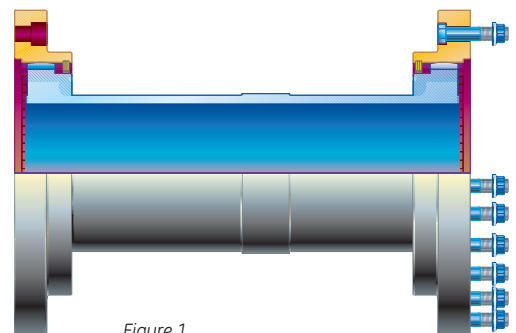

Figure 1
*Figure 1* shows the lubricated gear type load coupling for the MS3002J. On modern machines, dry flexible element couplings are used, which helps overcome the problems listed for lubricated couplings.